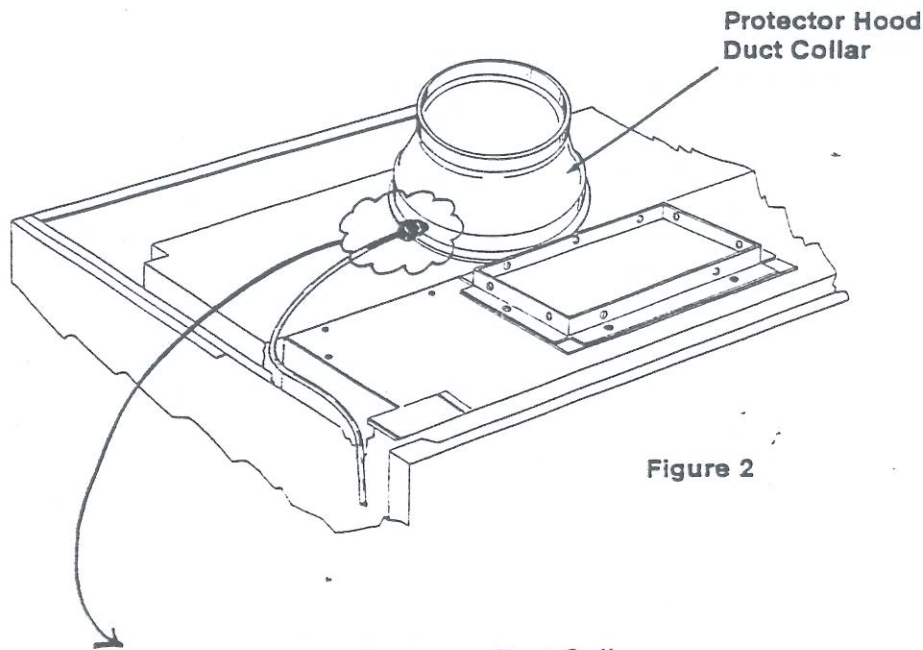

Figure 2
1. Unpackage the monitor kit P/N 49400 or 49400-01. Locate the duct collar in the upper plenum area on your hood and drill a $\frac{1}{2}$ " diameter mounting hole for the duct probe. Location for this hole is as shown in Figures 2 & 3.